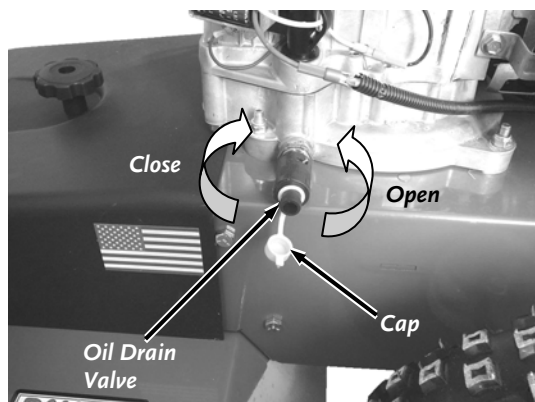

Figure 8
2. Open the Cap on the Oil Drain Valve (**Figure 8**) and as you push in the Oil Drain Valve, turn it counterclockwise then pull it out for draining.